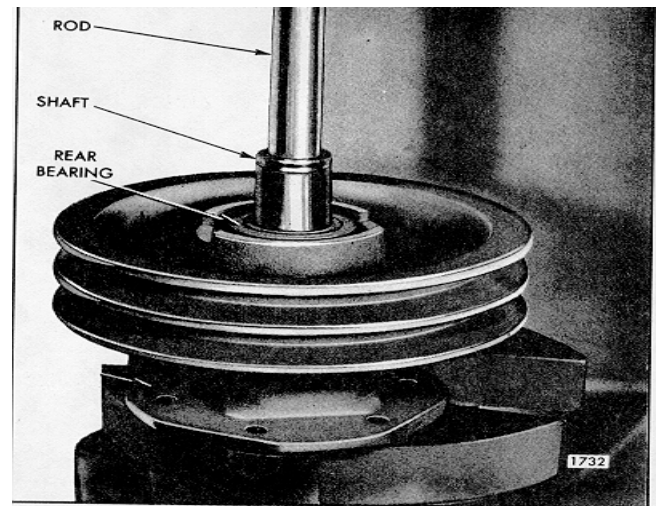

Fig. 4 - Removing Fan Shaft and Front Roller Bearing from Hub
4. Place the hub in an arbor press with the shaft in line with the opening in the bed of the press and the opposite end under the ram of press, as shown in Fig. 4. Place a brass rod between the ram of the press and the end of the shaft and press the shaft, front roller bearing and cap from the hub (Fig. 4).